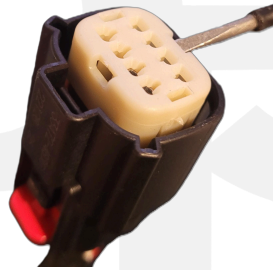

Figure 1
- Pry open the connector retainer using a small flat-head screwdriver (See **Figure 1**). Do not remove the retainer all the way.